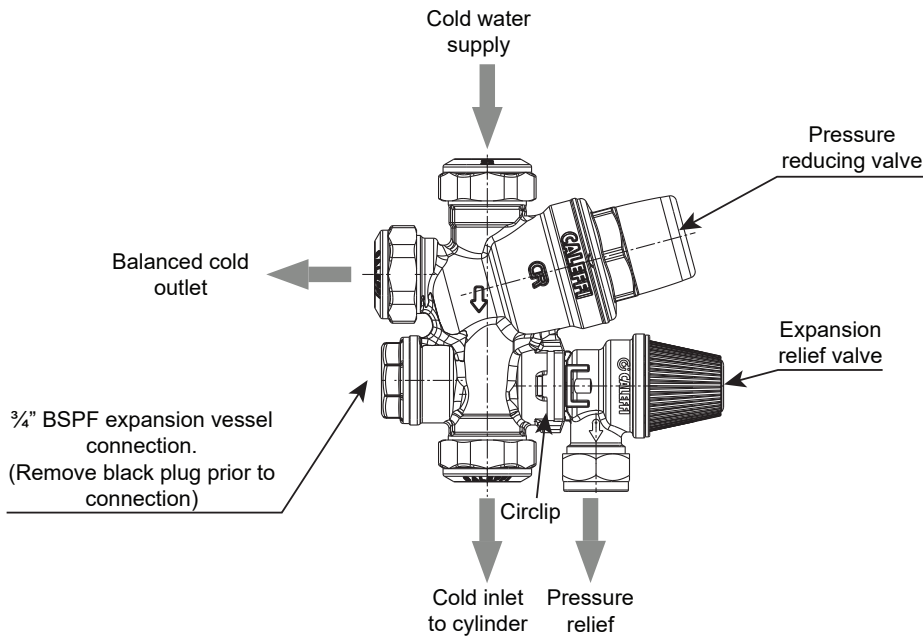

Figure 3-3: Cold water inlet manifold
A balanced cold water connection is provided on the inlet manifold. Refer to Figure 3-3. This should only be used to provide balanced cold supplies to shower valves and mixer taps. If the balanced cold water outlet is not required, blank off this port.
3. Once the pipework is flushed connect the cold supply to the Inlet manifold. Refer to Figure 2-2 for location and Figure 3-3 for a detailed drawing of the manifold. A service valve (not supplied) must be fitted in the cold supply to the cylinder before this connection is made.
6. Connect the expansion vessel directly to the 3/4" BSPF connection in the inlet valve manifold body, after removing the black plastic plug (see Figure 2-2 for location and Figure 3-3 for a detailed drawing of the manifold). Refer to Section 3.9 for more information on fitting the expansion vessel.
8. The pressure reducing valve has two outlets, the first being the cold supply to the cylinder; the second one is for a balanced cold water supply (Refer to Figure 3.3), to a shower or a bidet (over rim type only, ascending spray type requires type AA, AB or AD air gap).
This expansion vessel must be connected into the cold water supply, between the expansion relief valve (in the inlet manifold) and the cold water inlet to the cylinder. Refer to Figure 3.3.
The preferred method of connection is to hard pipe the expansion vessel directly to the 3/4" BSPF connection in the inlet valve manifold body using 22mm diameter pipe. Refer to Figure 3-3.
1. Remove the black plastic plug from the inlet manifold body (refer to Figure 3-3).